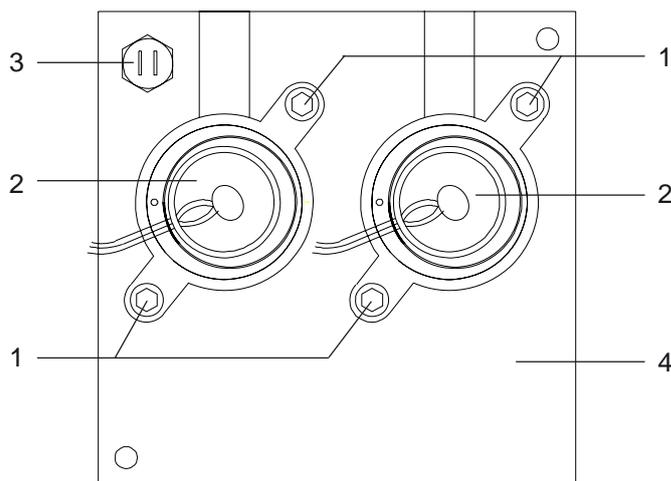

Fig. 17-2: Chopper Housing with IR light sources
17.2 Light Source Replacement (IR)
- Remove the two light source hexagonal mounting screws (shown in Fig. 17-2 as Item 1).
- Insert and tighten the two light source hexagonal mounting screws (Fig. 17-2).
- Slightly loosen the light source mounting screws (shown in Fig. 17-2 as Item 1) for corresponding channel.
- Tighten the light source mounting screws (shown in Fig. 17-2 as Item 1) for corresponding channel.